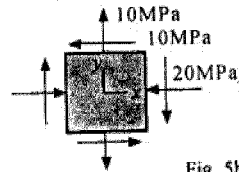

Fig. 5b
b) The ultimate strength of a brittle material is 40 MPa in tension and 50 MPa in compression. Use Mohr's failure criterion to determine whether the plane state of stress in fig. 5b would result in failure of this material.